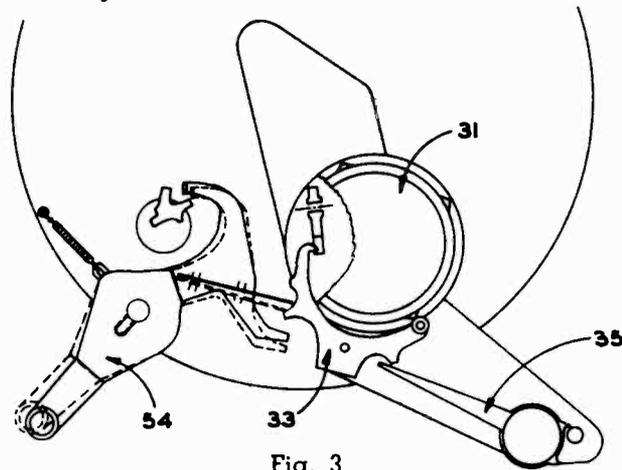

Fig. 3
When the control knob is moved to the extreme START-REJECT position, the hair spring of the Reject Trip Lever Arm (54) actuates the Velocity Trip and Arm Assembly, putting the change mechanism in cycle. See Fig. 3.
The upturned end of the Pickup Arm Pivot Shaft Bracket (Fig. 3) prevents the Pickup Arm from falling off the Pickup Arm Rest. There should be $\frac{1}{64}$ " clearance between the tongue of the Pickup Arm Raising Disc (36) and the bottom of the groove